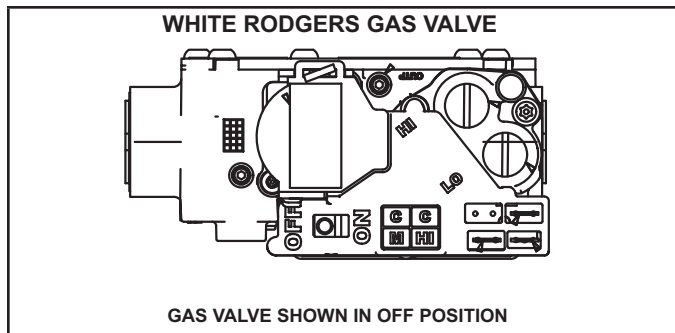

Figure 2
Operating the Gas Valve (Figure 2)
- 6 - Move switch on gas valve to **OFF**. Do not force. See figure 2.
- 8 - Move switch on gas valve to **ON**. Do not force. See figure 2.
- 4 - Move switch on gas valve to **OFF**. Do not force. See figure 2.